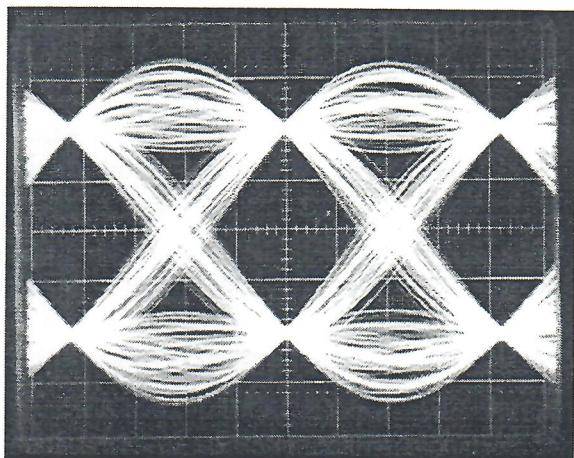
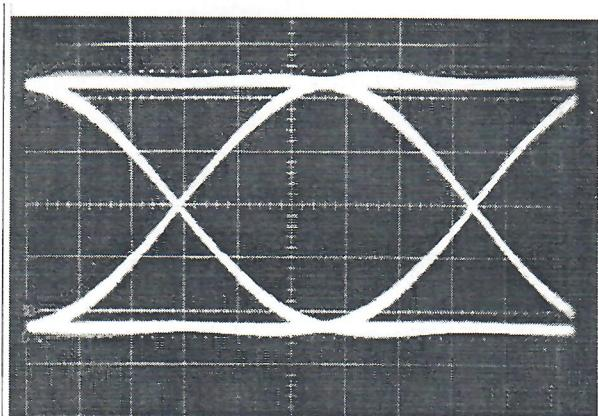

Fig. 12-1 40% rolloff, I-version.
Fig. 12-2 100% rolloff, I-version.
- The output should be as shown in Fig. 12-1 or Fig. 12-2.